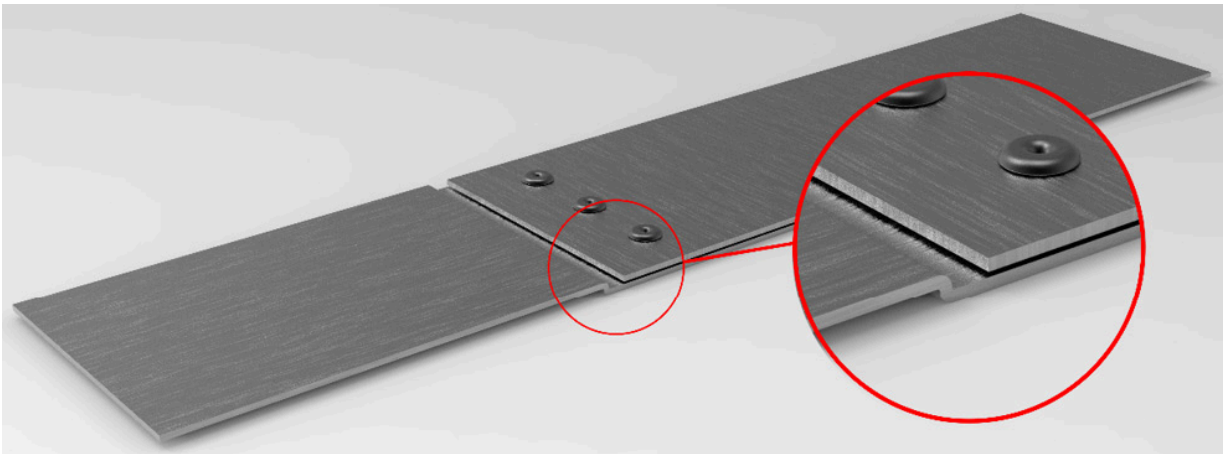

Figure 3.20: An example of a Jog feature being used to join two sheets
**Jogs** are a specialized form of sketched bend that uses two opposite bends to offset a sheet, making a Z or S shape. **Jogs** can be used to offset edges so that they fit into other parts (such as fitting the edges of a lid inside a box), or to stiffen the edge of a part. They are also especially useful when joining two sheets with a flat outer face. *Figure 3.20* shows two sheets of metal joined using a **Jog** and rivets: